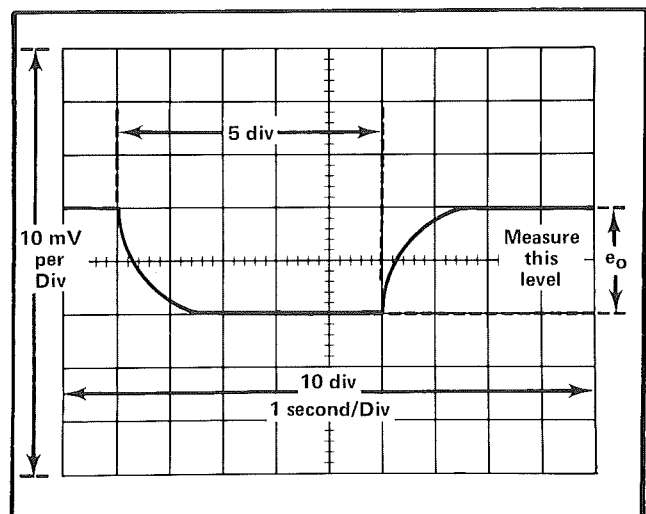

Fig. 5-2. Idealized waveform for checking isolation resistance.
b. Adjust Test Oscilloscope trigger for a stable display similar to that shown in Fig. 5-2.